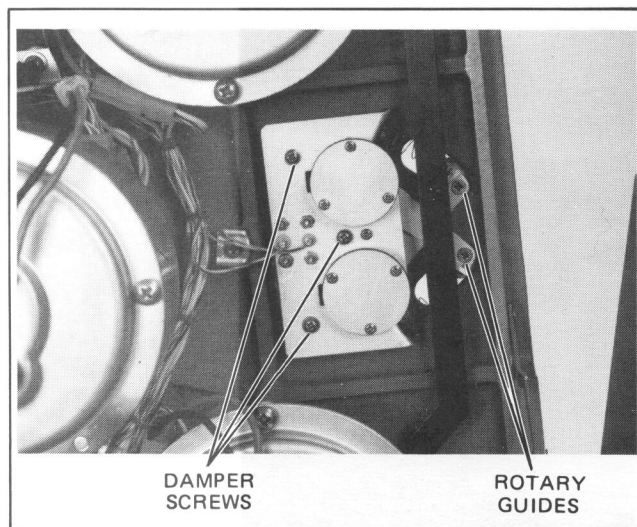

Figure 5-53. Rotary Guide and Tape Damper Removal
e. Remove the rotary guides as illustrated in Figure 5-53.
- Unsolder and remove the wires from the Tape Damper. Refer to Figure 5-53.
- Remove the three screws as identified in Figure 5-53 which secure the Tape Damper to the tape transport.